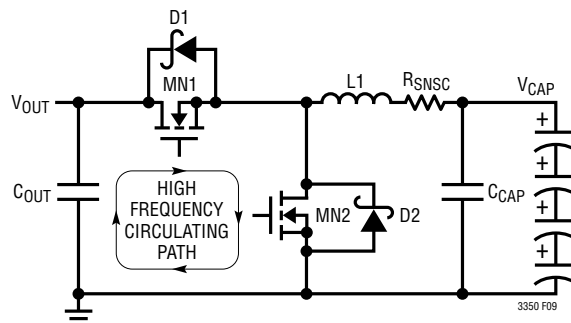

Figure 9. High Speed Switching Path
1. Keep MN1, MN2, D1, D2 and  $C_{OUT}$  close together. The high di/dt loop formed by the MOSFETs, Schottky diodes and the  $V_{OUT}$  capacitance, shown in Figure 9, should have short, wide traces to minimize high frequency noise and voltage stress from inductive ringing.